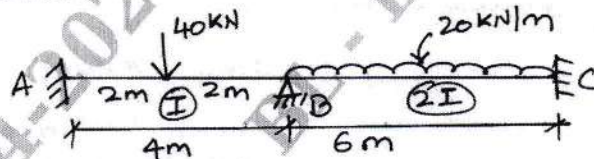

Fig.Q7
- 7 Analyze the continuous beam shown in Fig.Q7 by slope deflection method and draw bending moment, shear force diagram and elastic curve. Consider Young's modulus E to be same, throughout the beam.